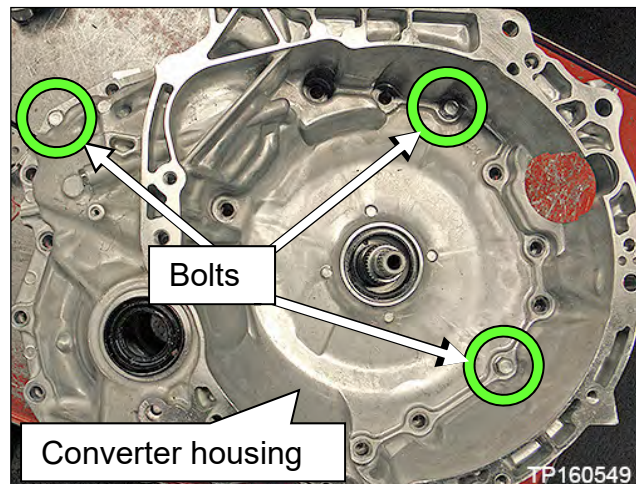

Figure 71
53. Temporarily install the converter housing onto the CVT case with three (3) bolts finger tight (Figure 71).